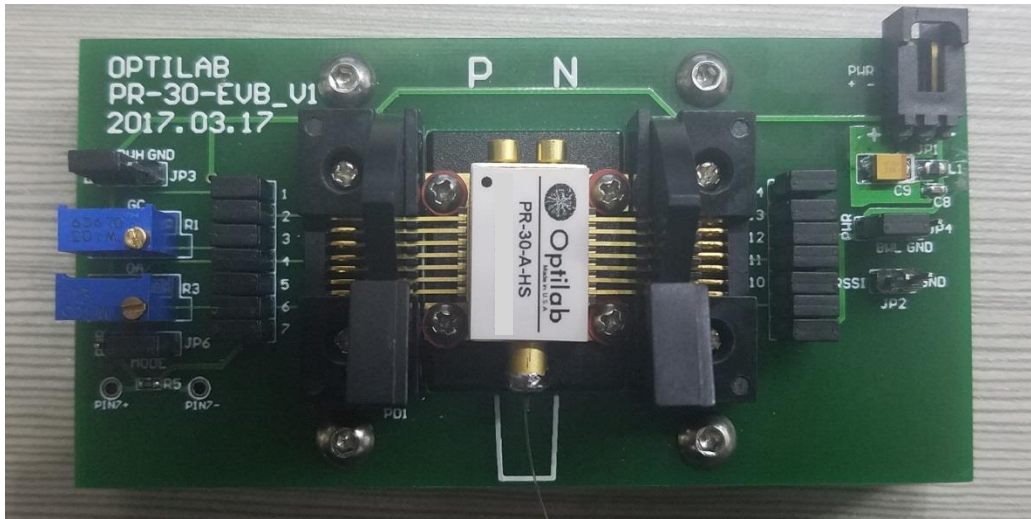

Figure 3. PR-30 clamped down on the EVB
- iv) Once secured clamp pins down in pin chuck, as shown in Fig. 3.